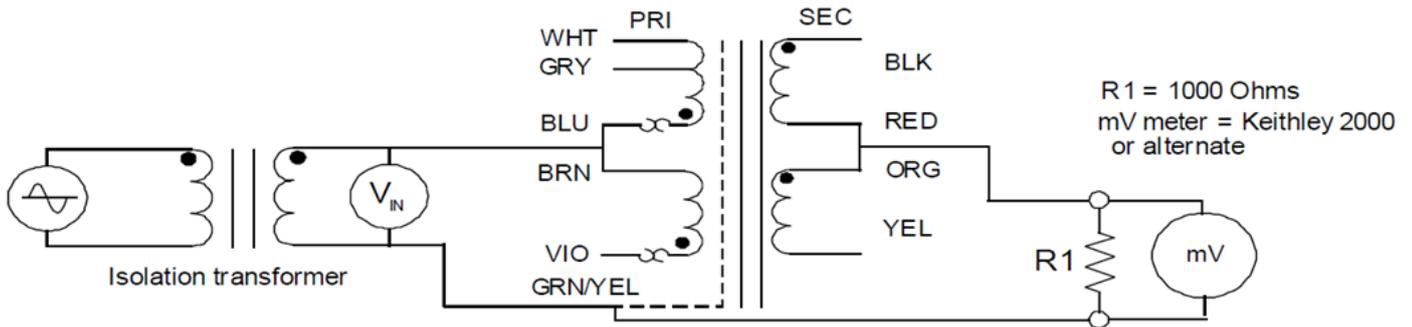
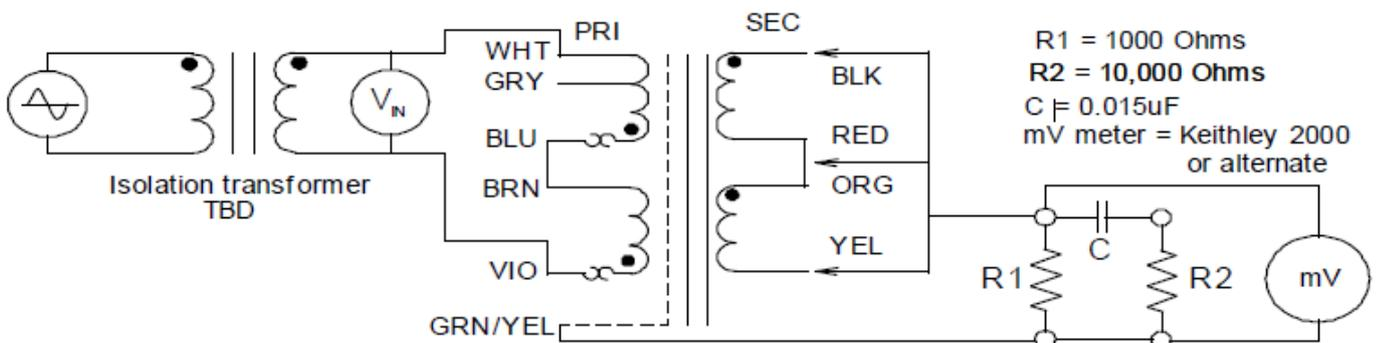

Figure 1
Figure 2
8. Earth Leakage: ≤10µA (See Fig. 1), Patient Leakage: ≤ 100µA (see Fig. 2)